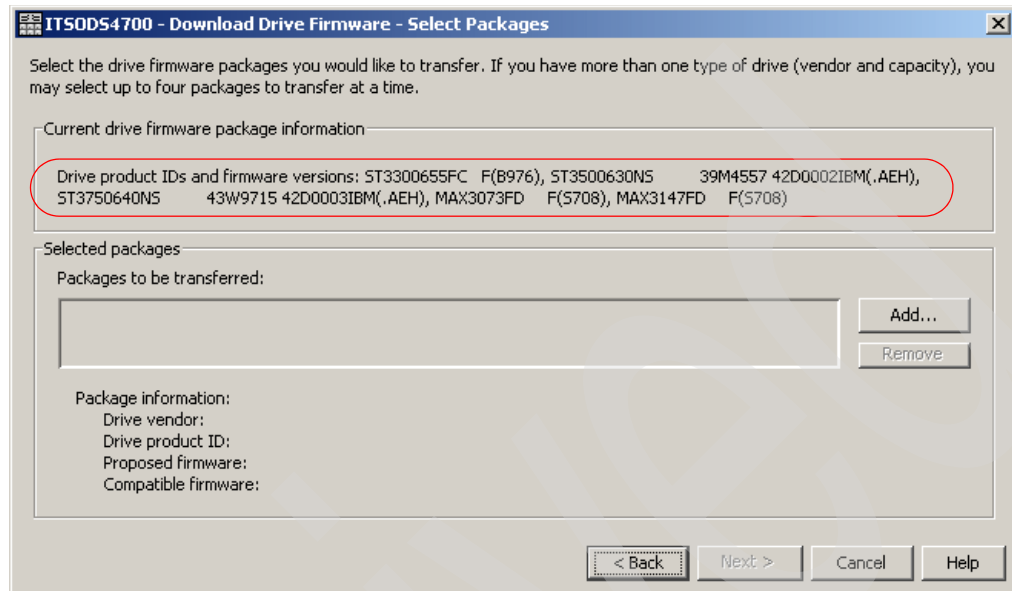

Figure 9-16 Drive firmware: Adding packages
2. After taking the option from the Storage Manager, the window shown in Figure 9-16 appears. This window lists current drive firmware package information and allows you to specify up to four firmware update packages. Click the **Add** button to select these drive firmware packages.